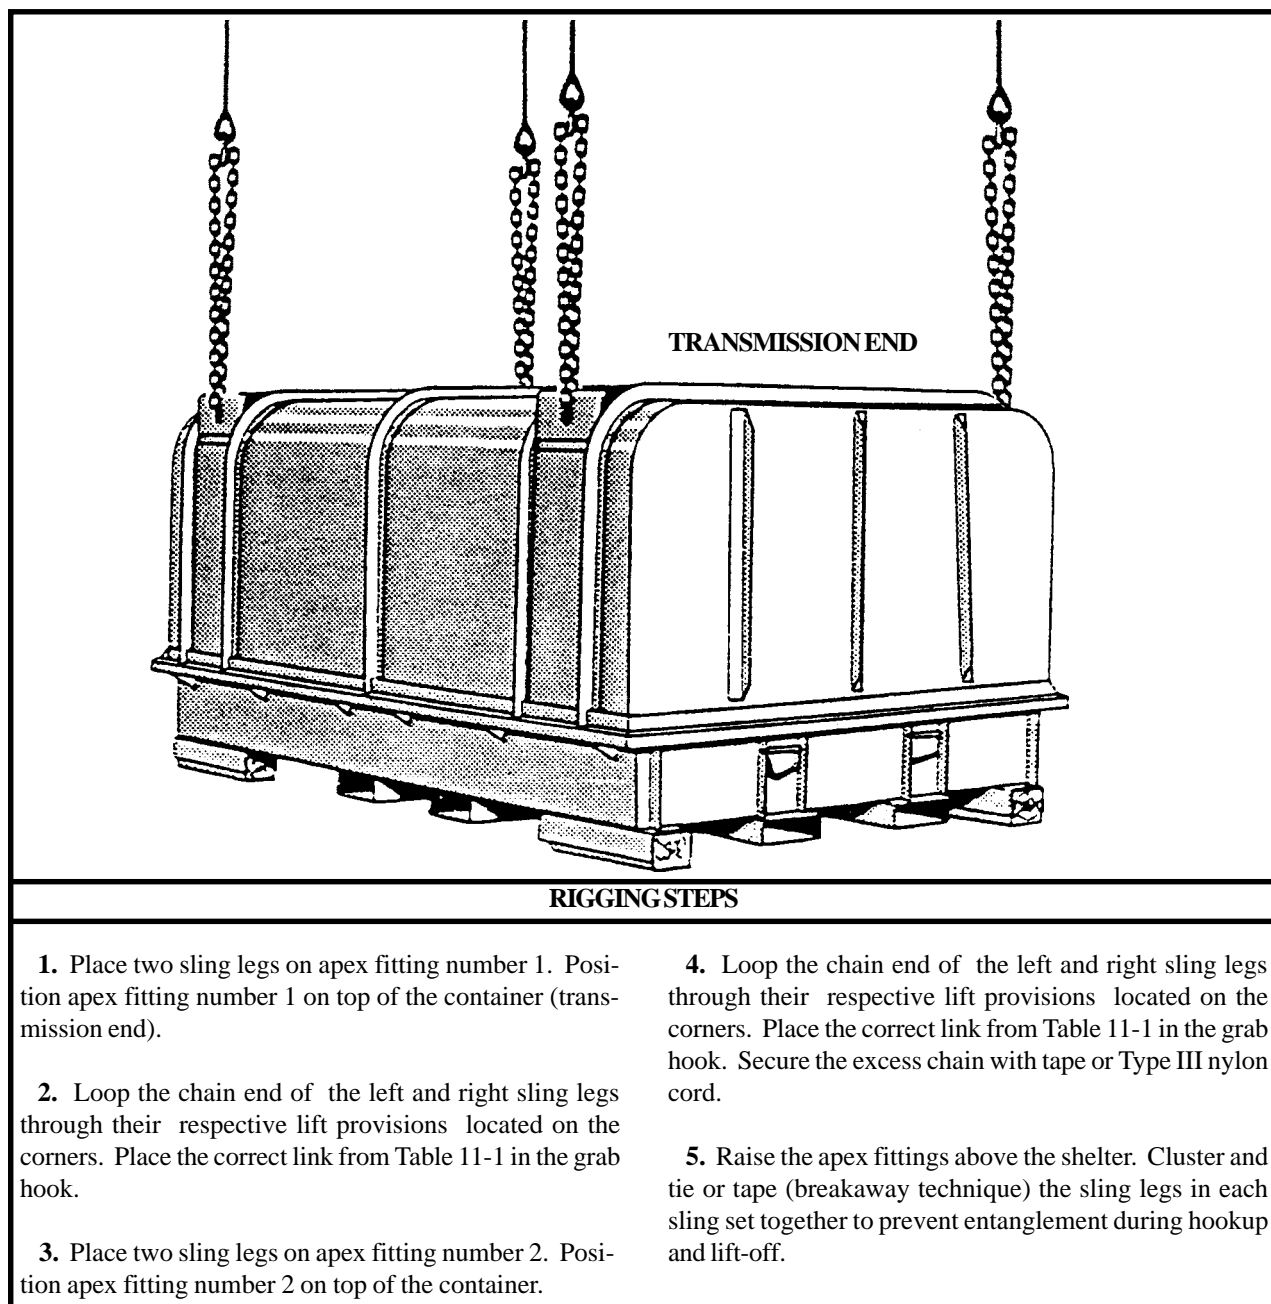

Figure 11-1. Full-Up Power Pack (FUPP) Container, MIA1
(1) Preparation. Prepare the load using the following steps:
(2) Rigging. Rig the load according to the steps in Figure 11-1.
(3) Hookup. Two hookup teams stand on top of the